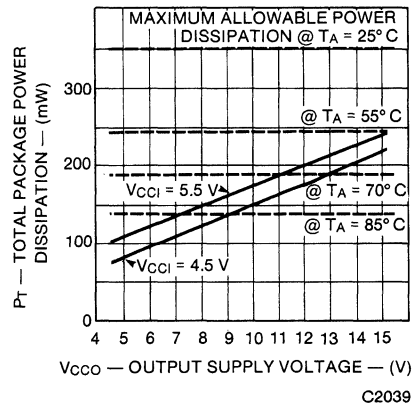

Fig. 12. Power Dissipation vs.
4.5 to 5.5 volt supplies and, under these conditions, the devices will operate successfully over a -40°C to 85°C range. The 74OL6010/11 output amplifier will operate from a 15V supply over a temperature range of -40°C to 55°C , however, the output amplifier power supply voltage must be derated at a rate of $-0.27\text{V}/^{\circ}\text{C}$ above an operational temperature of 55°C . This function is shown graphically in Figure 12.